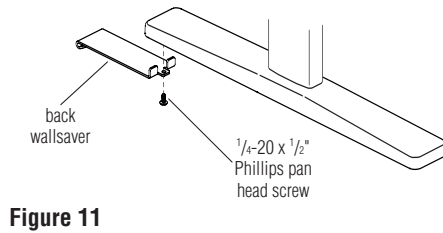

Figure 11
1. Hook tabs of the ganging/wallsaver bracket(s) onto the underside of the foot casting, placing one tab on each side of the square emboss. Secure the bracket with a 1/4-20 x 1/2" Phillips pan head thread rolling screw (Figures 11 - 14).